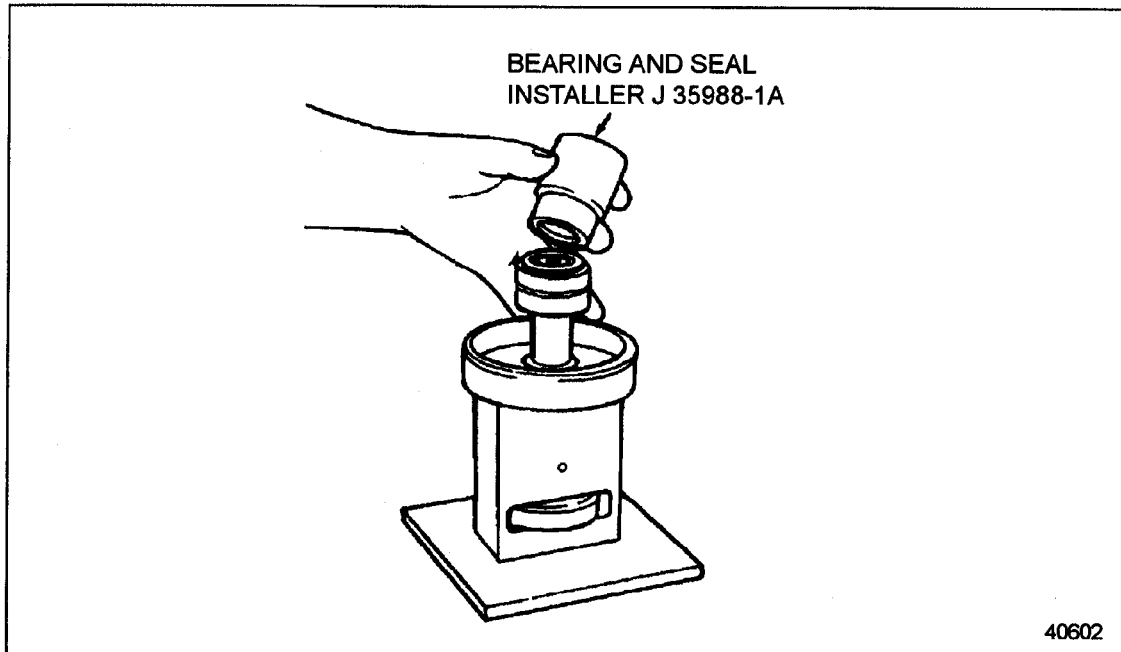

Figure 4-47 Bearing Installation (FM)
5. Press the bearing pack onto the shaft until it contacts the shoulder of the shaft using J 35988-1A, part of tool set J 35988-B. See Figure 4-47.